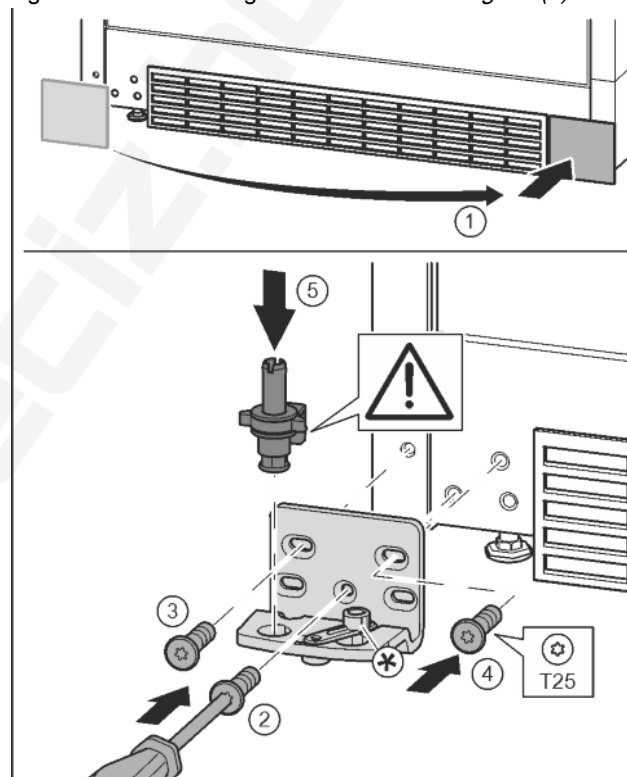

Fig. 12
- Remove the cover and fix it on the other side. Fig. 12 (1)
- Place the bearing bracket on the other side and screw in with the aid of a T25 screwdriver. Start with screw 2 at the bottom in the middle. Fig. 12 (2)
- Screw in screws 3 and 4. Fig. 12 (3, 4)
- Insert the bearing pin completely. Make sure that the catch mechanism is pointing to the rear. Fig. 12 (5)